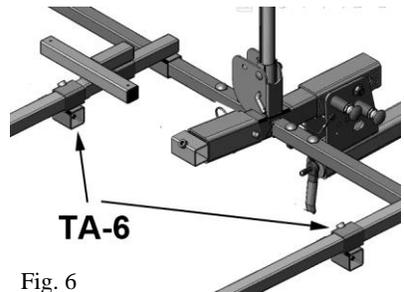

Fig. 6
Step 5: Install TA-6 on both sides. "Open tube" should be on the bottom. Do not tighten. (Fig. 6)